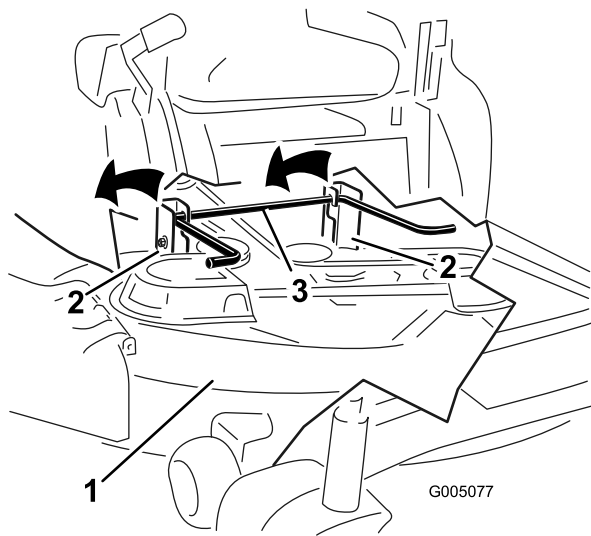

Figure 47
5. Lift the mower deck and hanger brackets clear of the rear lift rod and lower the mower carefully to the ground (Figure 47).
5. Lift the rear of the mower deck and guide the hanger brackets over the rear lift rod (Figure 47).